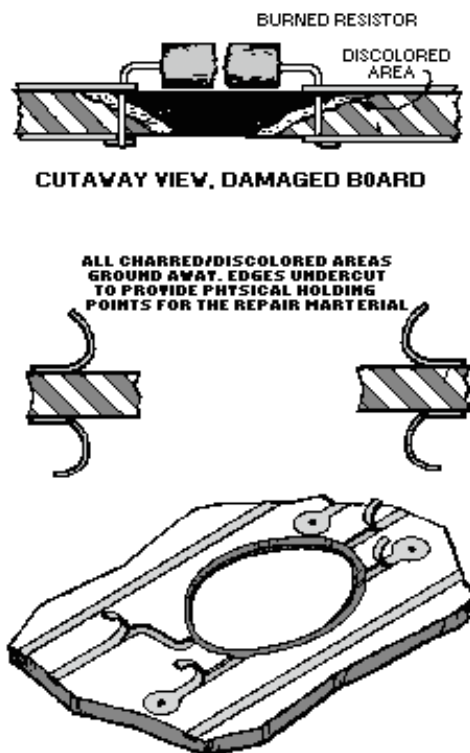

Figure 3-29.—Repair of burned boards.
1. If the board is scorched, charred, or burned, all discolored board material is removed by abrasive methods, as shown in figure 3-29. Several components in the affected area may have to be desoldered and removed before the repair is continued.